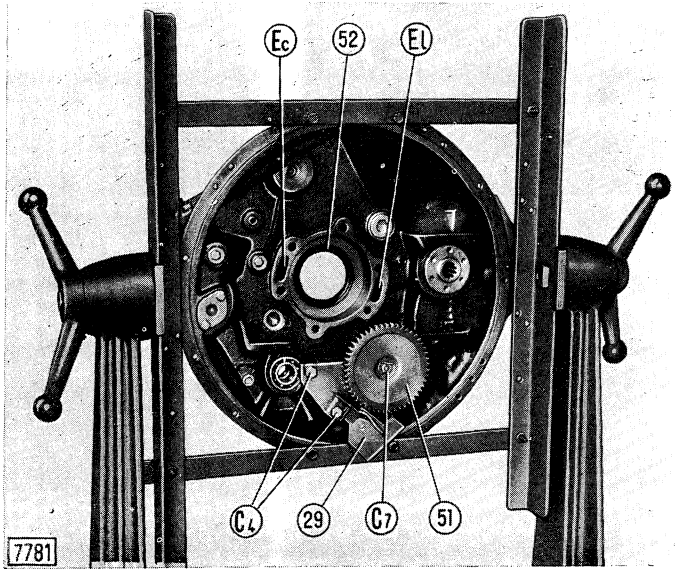

Fig. 324 - Master Clutch Bell Housing
— Refit oil baffle (29, Fig. 324) and hydraulic pump driven gears (51).